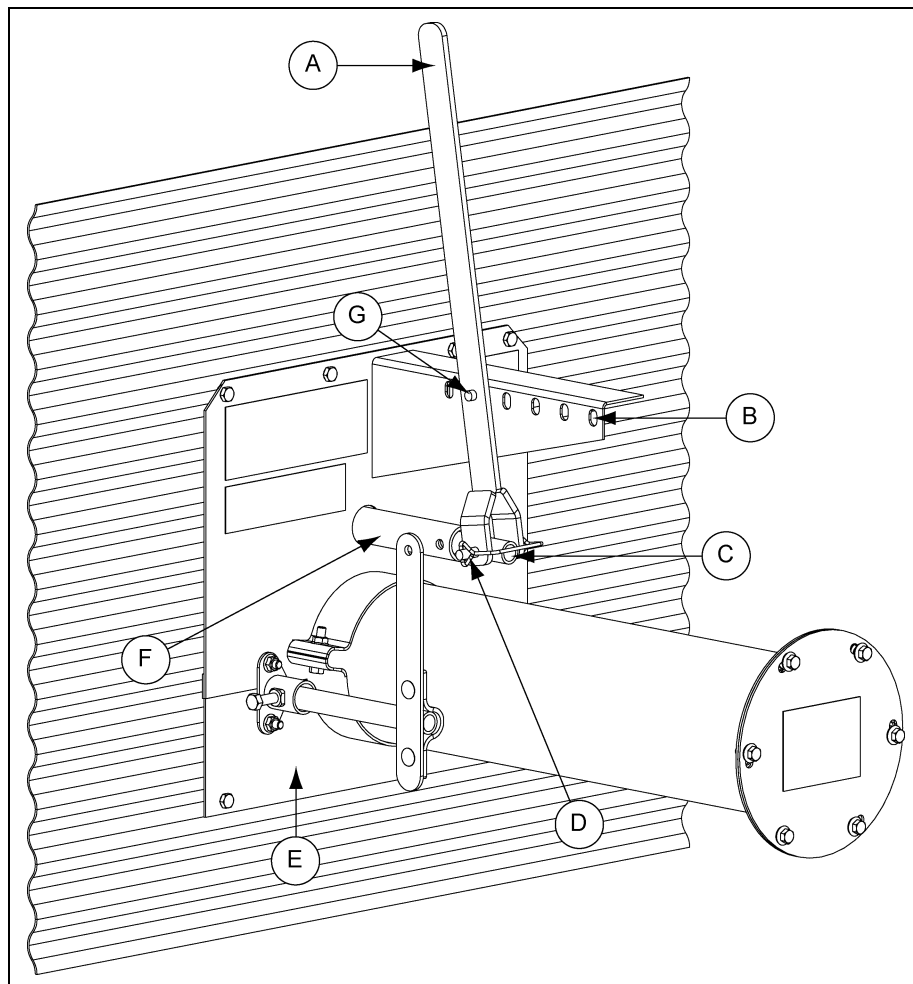
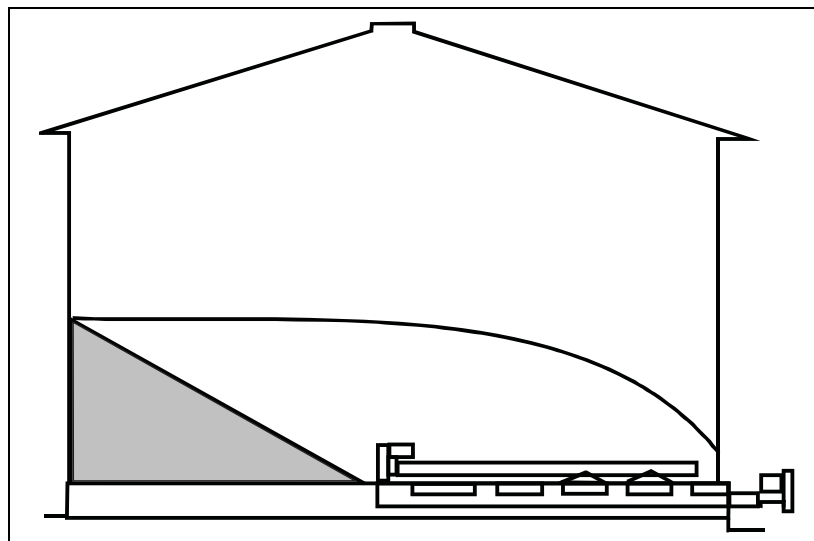

Figure 6A
Figure 6D
2. The safety snap pin should be inserted through the center well control rod and the control lever. Make sure it has NOT been inserted through the intermediate well control rod. (See Figure 6A.)
3. Place control lever in the second slot and pull lever to open gradually until the desired flow is established. (See Figure 6A.) It should not be necessary to open the gate more than 3" to 6".
6. Gradually open gates using the middle pivot slot until the desired flow of grain is reached. You should not open the gates more than 2" to 4". If gates need to be opened further, use the last slot for more leverage. (See *Figure 6A on Page 46*.) The remaining grain should look similar to *Figure 6D*.
6. Gradually open the gates until the desired flow of grain is reached. You should not open the gate more than 2" to 4". The remaining grain should look like Figure 6D on Page 47.